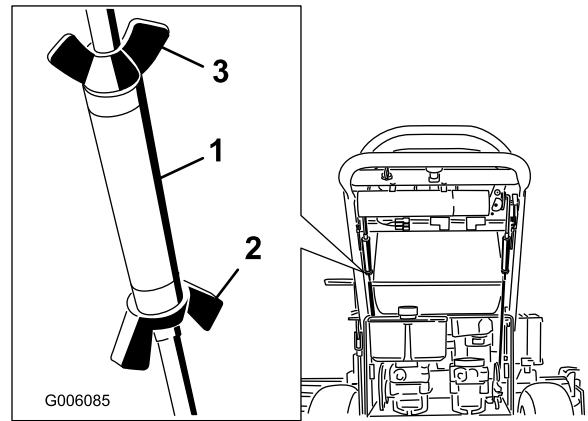

Figure 36
3. Loosen the wing nuts on the right control rod and rotate the turnbuckle in or out to ensure the right side control lever is centered in the neutral lock position. Secure the turnbuckle in position with the wing nuts (Figure 36).
4. Loosen the wing nuts on the left control rod and rotate the turnbuckle in or out to change the tracking. Secure the turnbuckle in position with the wing nuts (Figure 36).